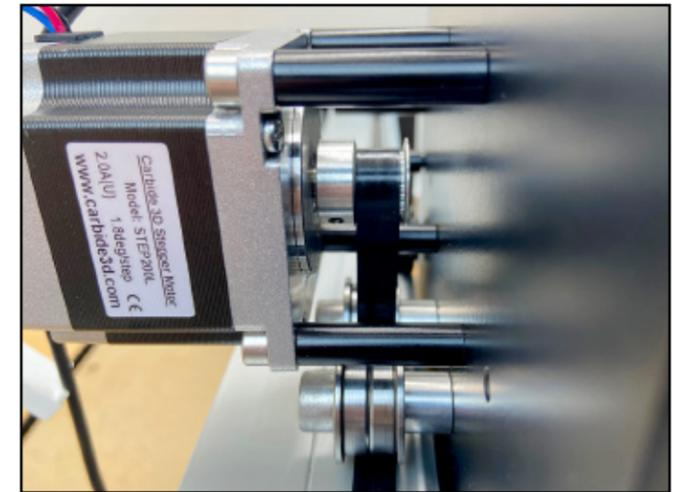

Figure 5-9
8. Make sure the belt has not twisted and the teeth are still facing down, then place the belt loop over the X-motor pulley. See **Figure 5-9**.